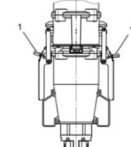

Fig.11: Securing the locking levers
4. Use a padlock to secure the locking levers (Fig.11/1).